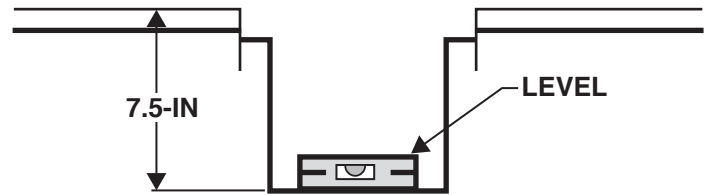

Figure 10B: U Shaped Box Mounting Depth
6. Mount fabricated box so the bottom inside of the box is 7.5" below floor opening. See figure 10B.
7. Use a level to verify the fabricated box is installed properly. See figure 10B.